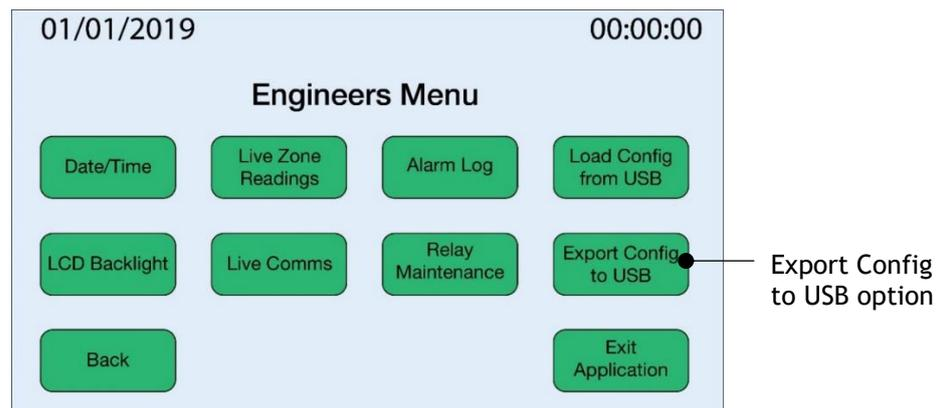

Figure 17: EMS Engineers Menu
3. **Summary Screen**: Tap 'Engineer' > Enter Pin (default: 1234) > Tap 'Export Config to USB' (Figure 17).